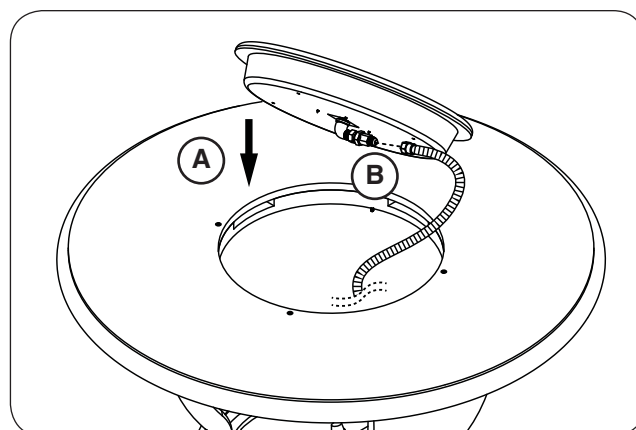

Fig. 23-4 Place burner and connect flex
5. Drop the burner assembly into the opening in the center of the firetable top (see Fig. 23-4, A).
6. Locate the flex connector (marked **OUT**) that is coming off the valve assembly. Route it to the connection found on the underside of the burner assembly and connect. Tighten securely. See Fig. 23-4, B.